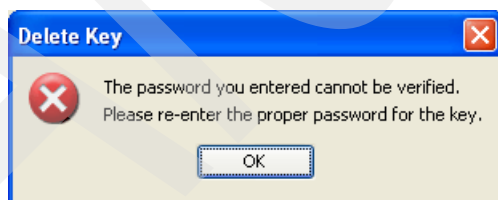

Figure 12-61 Incorrect password
1. Click **OK** on the incorrect password window shown in Figure 12-61.